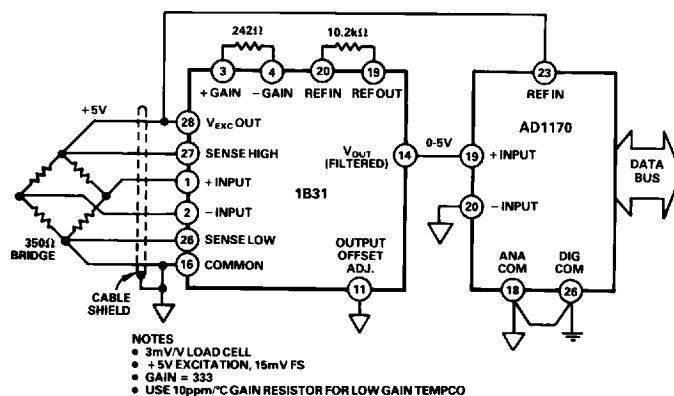

Figure 19. Pressure Transducer Data Acquisition Using 1B31 and AD1170
**Pressure Transducer Data Acquisition System:** Figure 19 shows a two module solution for microcomputer based data acquisition using a 1B31 and an AD1170 18-bit A/D converter. A  $3\text{mV/V}$  pressure transducer (e.g. Dynisco 800 series) is interfaced to a 1B31 set up with a gain of 333.3 to give a  $0-5\text{V}$  output. The regulated excitation is +5V, and for ratiometric operation it is also used as the voltage reference input for the AD1170. An initial ECAL command establishes the voltage excitation as the full-scale input of the AD1170 and periodic calibration cycles keep the converter tracking the reference input. This configuration yields very high CMR ( $168\text{dB}$  @  $60\text{Hz}$ ) enhanced by the 1B31 low pass filter and the integrating conversion scheme of the